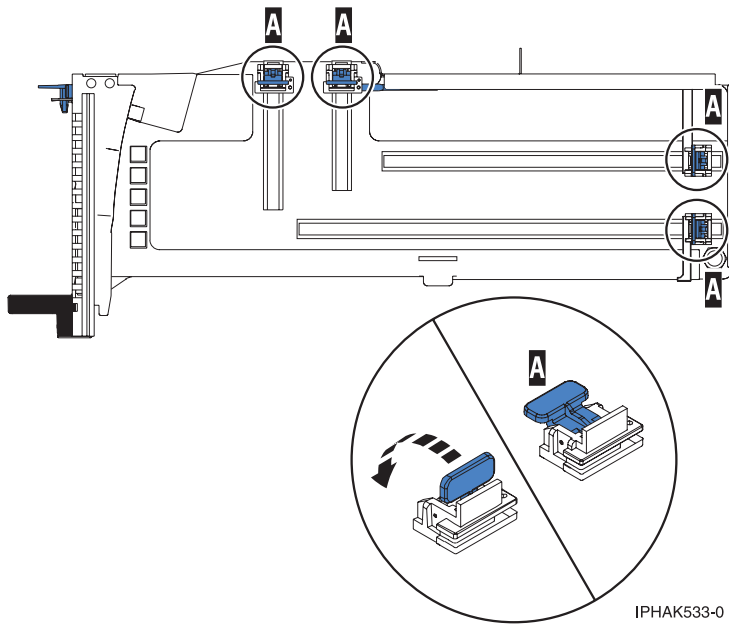

Figure 85. Adapter retainers
- b. Ensure that all of the adapter retainers (A) have been pushed out to the edges of the cassette to allow the placement of the adapter. See Figure 85 on page 93.